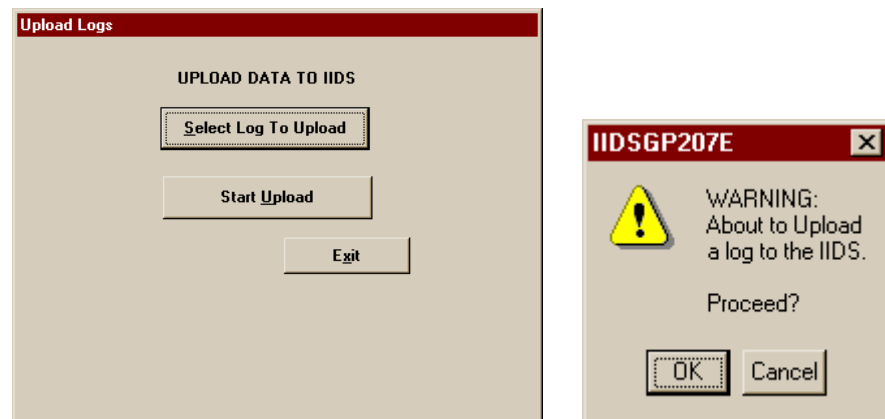
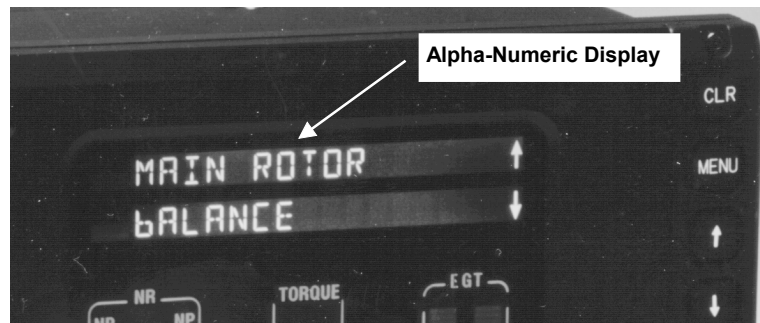

Figure 21. Start Upload Screens
Figure 22. IIDS Alpha-numeric Display
8. Click on the "Start Upload" control button. Click on "Ok" in the "About to upload" warning dialog box (refer to Figure 21) and wait for the indication that the communications has been completed successfully. When file transfer is complete the message "DATA XFER CMPL" will appear on the IIDS alpha-numeric display (refer to Figure 22).